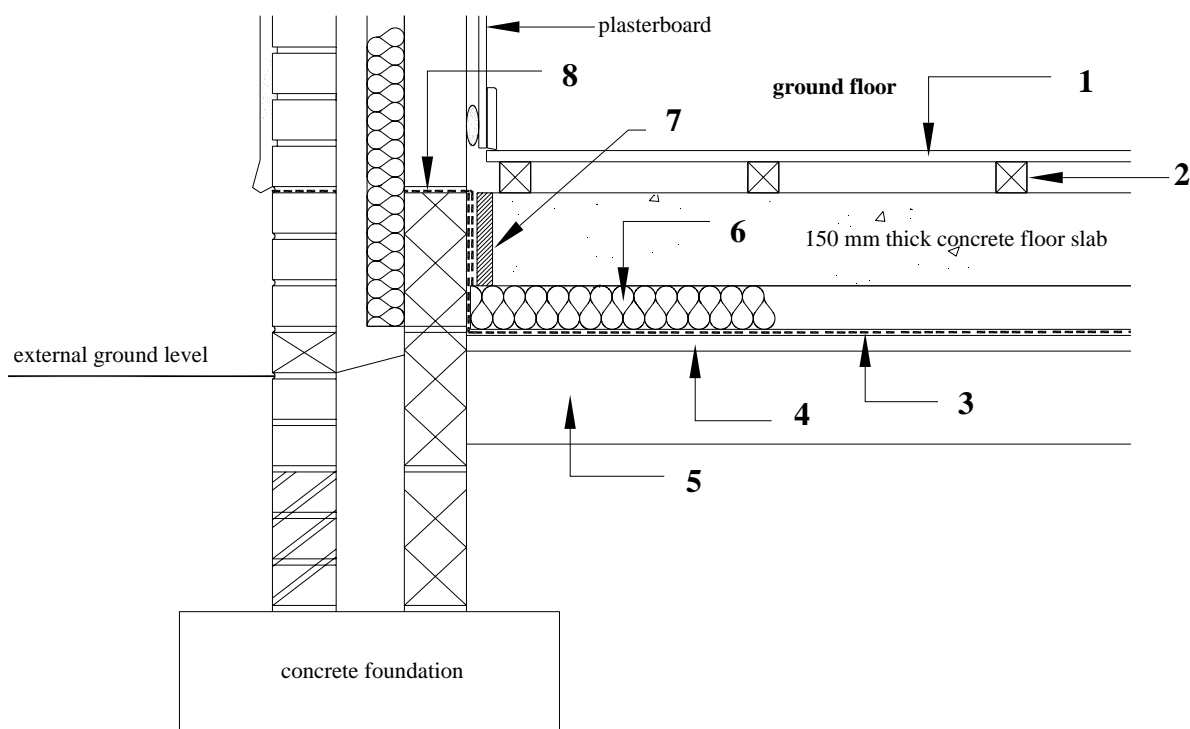

Figure Q7
7. (a) **Figure Q7** shows a vertical cross-section through a ground bearing floor slab for a dwelling house.